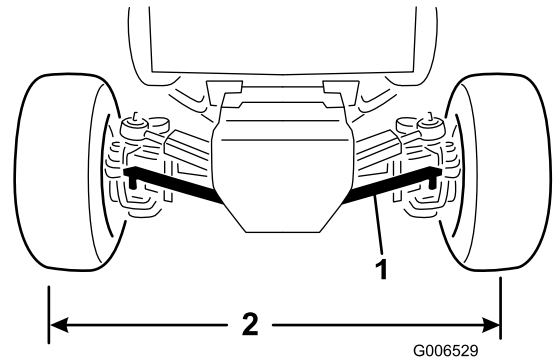

Figure 15
- Remove the nut securing one tie rod ball joint to the mounting bracket on the axle and disconnect the ball joint from the axle (Figure 15).
- Rotate the tie rod ball joint in or out until the center-to-center distance at front and back of rear wheels is the same (Figure 15).